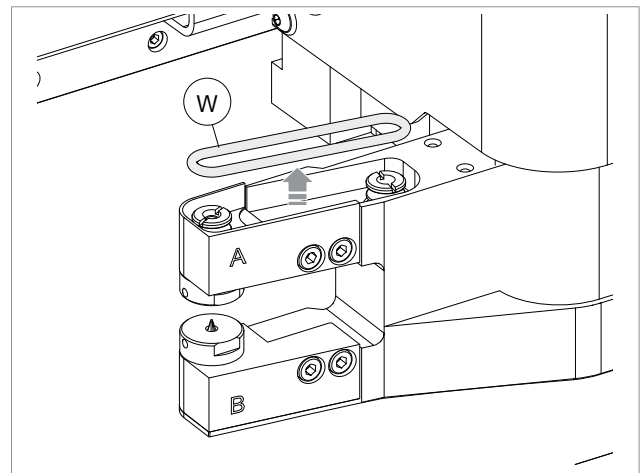

Fig. 152
- 2) Raise the protective shield (C).
- 4) Remove the three screws (T3) and cover (T4) to reach the belt (W).
- 5) Remove the worn or torn belt (Fig. 152).